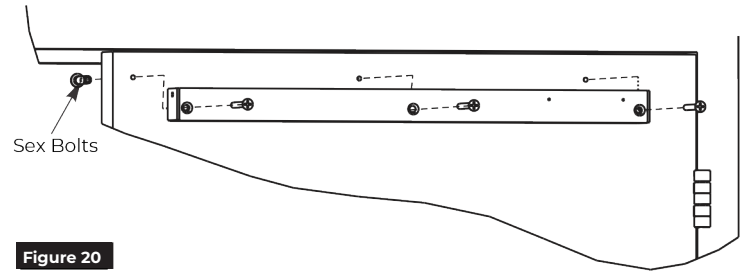

Figure 20
1. Using previously prepared holes in doors, install three (3) 1/4-20 x 1-5/8" screws through each track and into sex bolts. (Figure 20)